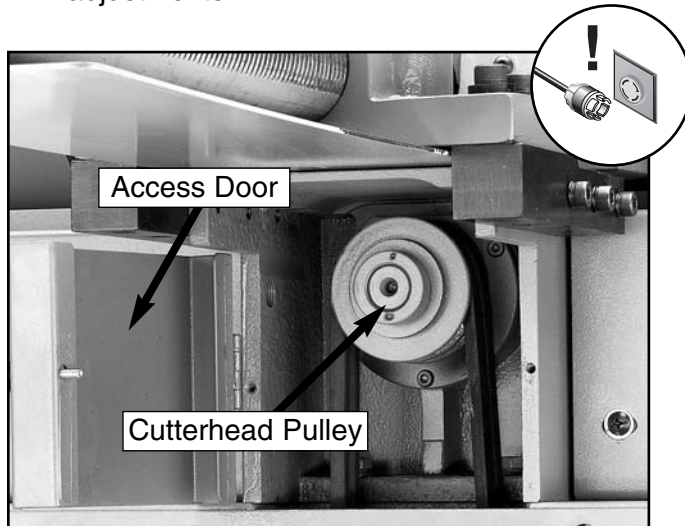

Figure 15. Accessing the cutterhead pulley.
2. Open the access door (**Figure 15**) on the back of the machine, just below the fence adjustments.
4. Rotate the cutterhead by turning the cutterhead pulley (**Figure 15**).